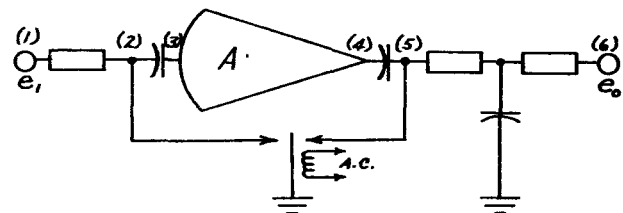

FIG. 3 - CHOPPER AMPLIFIER
If sufficient drift free gain can be obtained at the early stages of a d-c amplifier, effective and satisfactory drift reduction is possible. Chopper stabilization is a method for obtaining early stage driftless gain. Chopper stabilization is accomplished in the TCA by means of an a-c amplifier and chopper as shown in Figure 3. Input and output capacitors block d-c to provide drift-free gain in the a-c amplifier. Through the use of a chopper, a d-c signal may be modulated, amplified as a-c and demodulated back into d-c thus achieving driftless d-c amplification.
The chopper coil is energized from an a-c source causing alternate grounding of the input and output circuits of the a-c amplifier. Referring to both Figures 3 and 4, a constant d-c voltage at terminal (1) is chopped at junction (2) into a square wave as shown in curve (b). This square wave will pass through the input capacitor as shown in curve (c) to be amplifier as shown in curve (d). During the time the input chopper contacts are open the output contacts are closed so that only negative portions of the square wave appear at junction (5), curve (e). The output signal is next filtered leaving only the d-c component in the output as shown in curve (f). The a-c amplifier-chopper combination thus becomes a driftless d-c amplifier capable of amplifying either polarity of input. The frequency response of this amplifier is, however, limited because of the output filter.